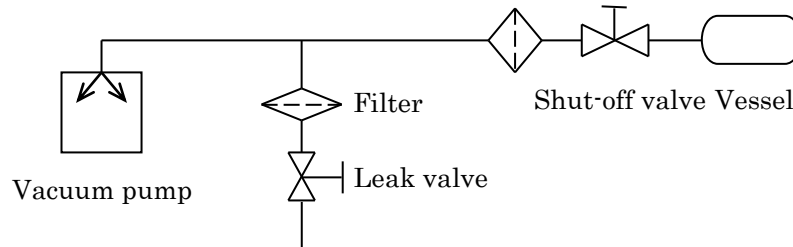

Fig.3.3 Example of Piping Used When Evacuating a Vessel
- 5) When evacuating a vessel, ensure that a shut-off valve is placed between the pump inlet pipe and the vessel (see Fig.3.3).